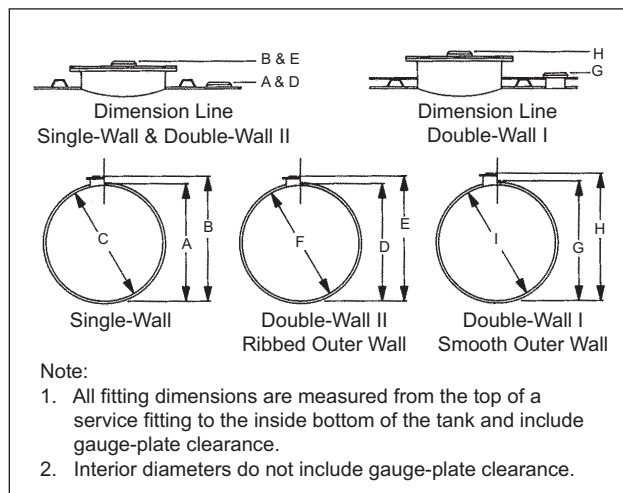

FIGURE 11-1
11.1.2. Refer to FIGURE 11-1 along with TABLE 11-1 to determine the correct dimensions for sizing internal piping.
Interior Dimensions in FIGURE 11-1	Tank Diameter